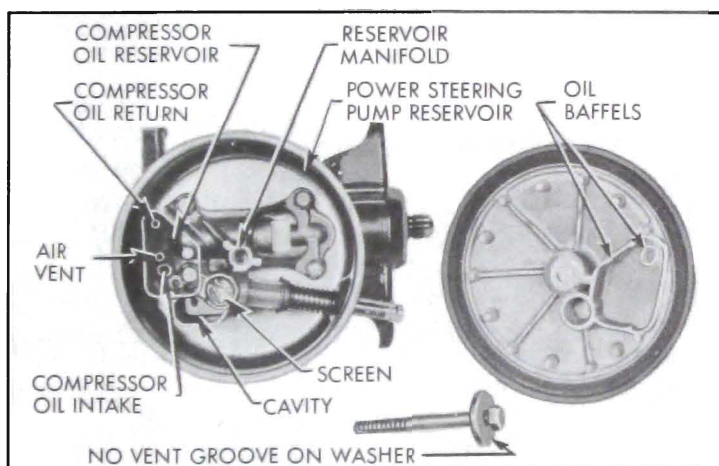

Figure 8-42—Reservoir with Cover Removed (Air-Poise Pump)
3. Then remove pump manifold, housing, and gaskets. See Figure 8-42. Mark pump body and rotor ring for correct assembly.